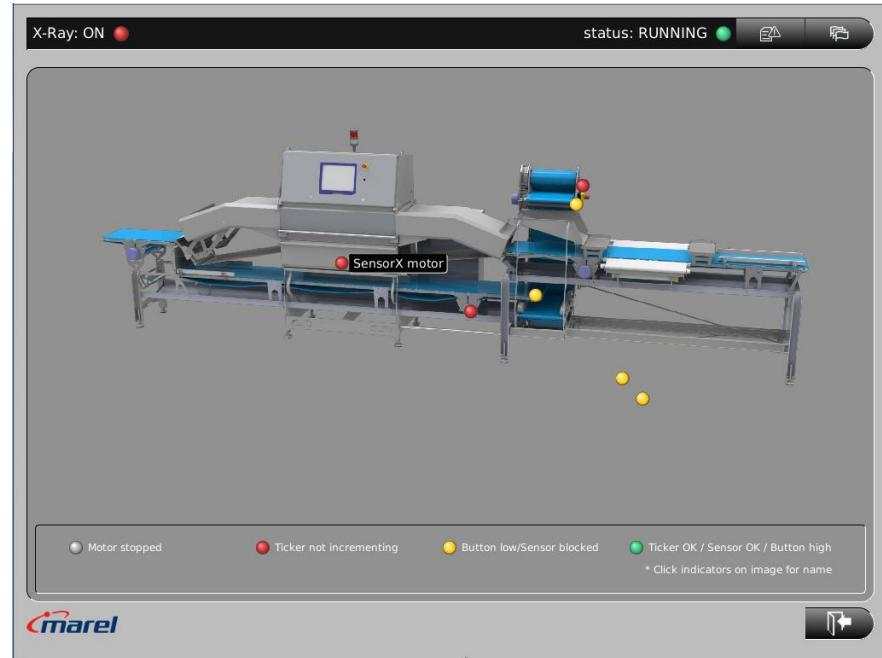

Figure 12 The Hardware Monitor screen.
**Note:** If you click a bullet in the Hardware Monitor screen image, a text box is displayed with the bullet's name (see "SensorX motor" in Figure 12).